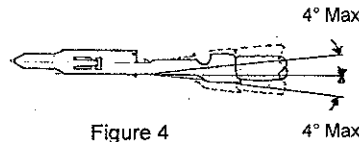

Figure 4
- The side to side bending of the contact shall not exceed the limits specified in figure 4.